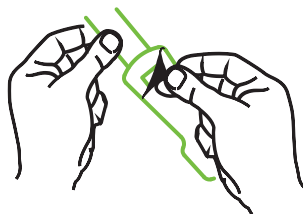

Figure 13-10 Removing protective liner from sensor
- 2 Remove and discard the protective liner from the sensor (figure 13-10).